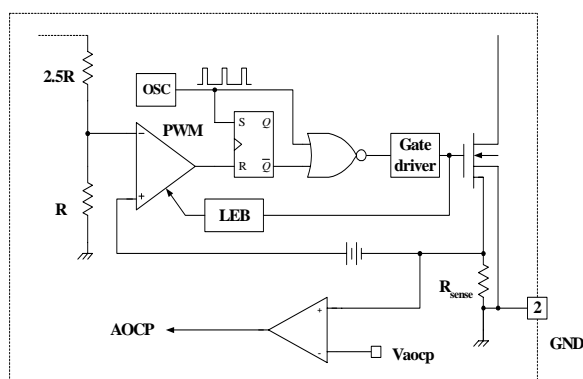

Figure 14. AOCP block
4.2 Abnormal Over Current Protection (AOCP) : When the secondary rectifier diodes or the transformer pins are shorted, a steep current with extremely high di/dt can flow through the SenseFET during the LEB time. Even though the FSCQ0765RT has OLP (Over Load Protection), it is not enough to protect the FSCQ0765RT in that abnormal case, since sever current stress will be imposed on the SenseFET until OLP triggers. The FSCQ0765RT has an internal AOCP (Abnormal Over Current Protection) circuit as shown in Figure 14. When the gate turn-on signal is applied to the power Sense FET, the AOCP block is enabled and monitors the current through the sensing resistor. The voltage across the resistor is then compared with a preset AOCP level. If the sensing resistor voltage is greater than the AOCP level, the set signal is applied to the latch, resulting in the shutdown of SMPS. This protection is implemented in latch mode.